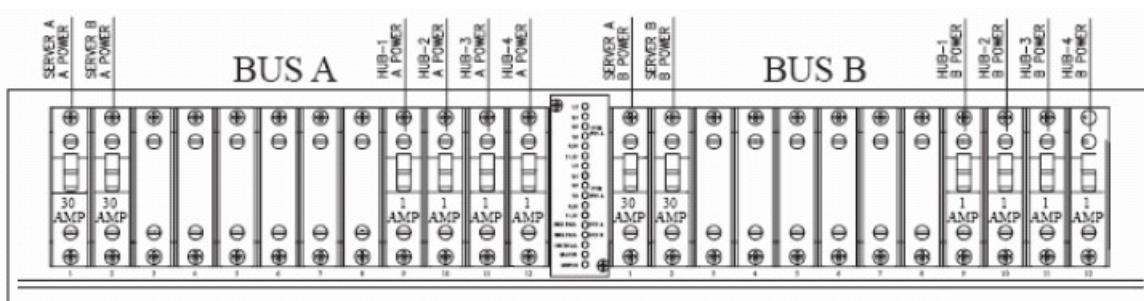

Figure 30: Breaker Panel Setting
2. Look at the breaker panel assignments in Figure 30: Breaker Panel Setting. For each breaker assignment, verify that the corresponding LED in the PWR BUS A group and the PWR BUS B group is illuminated Green.